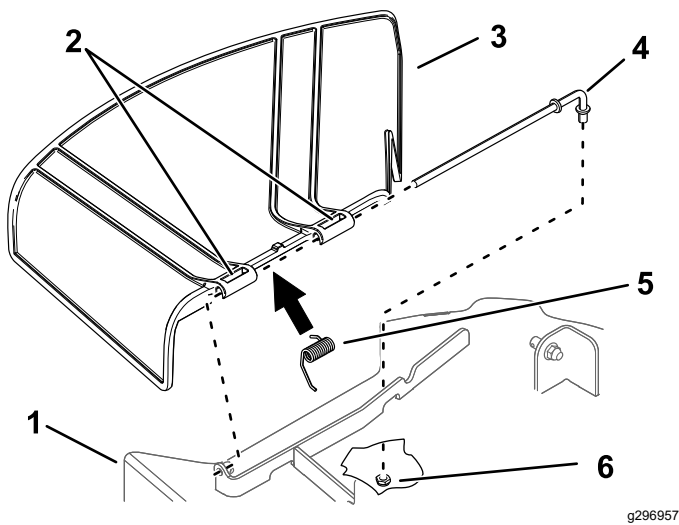

Figure 67
- Remove the nut (3/8 inch) from the rod under the mower (Figure 67).
- Slide the rod out of the deck bracket, spring, and grass deflector (Figure 67).
- Install the new grass deflector (Figure 67).
- Slide the rod through the second grass-deflector pivot (Figure 67).
- Secure the rear end of the rod into the mower with a nut (3/8 inch) as shown in Figure 67.